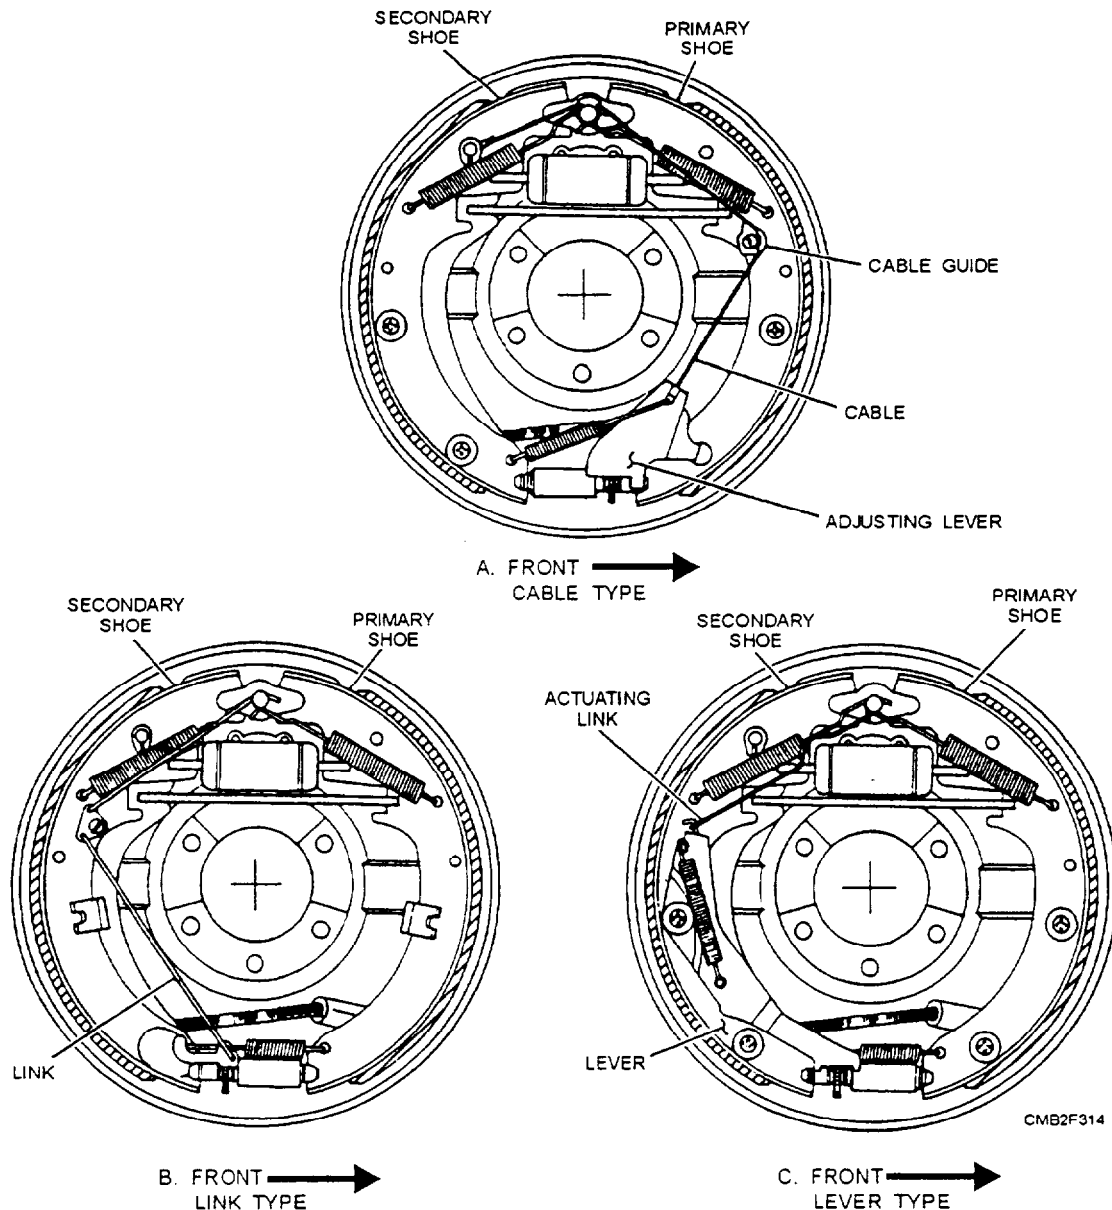

Figure 7-13.—Self-adjusting mechanisms.
Many vehicles use a star wheel (screw) type brake shoe adjusting mechanism. This type consists of a star wheel (adjusting screw assembly), adjuster lever, adjuster spring, and an adjusting mechanism. The adjustment system may be grouped as follows (fig. 7-13):
- Cable type—The cable type self-adjusting system (fig. 7-13) uses a braided steel cable and the expanding action of both brake shoes to accomplish the self-adjusting action in forward and reverse directions. A one-piece cable is attached to the adjusting lever and passes through a cable guide on the primary shoe. The
- Link type—The link type self-adjusting system (fig. 7-13) uses solid linkage rods to connect the adjusting lever to the stationary anchor point. The two linkage rods, connected together by a bell crank that pivots on the secondary brake shoe, operate the adjuster. One rod attaches to the anchor point and the bell crank,
- **Lever type**—The lever type self-adjusting system (fig. 7-13) is similar to the link type, in that it operates in reverse direction only. While the link type system uses linkage rods to perform the adjusting process, the lever type uses a stamped metal lever to engage the star wheel and actuating link to connect to the anchor pin. The adjusting process is the same as the link type system.